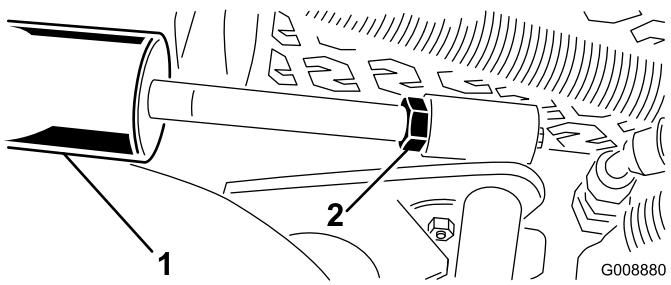

Figure 26
- A. Lower the cutting units and back off the jam nut on the cylinder (Figure 26).